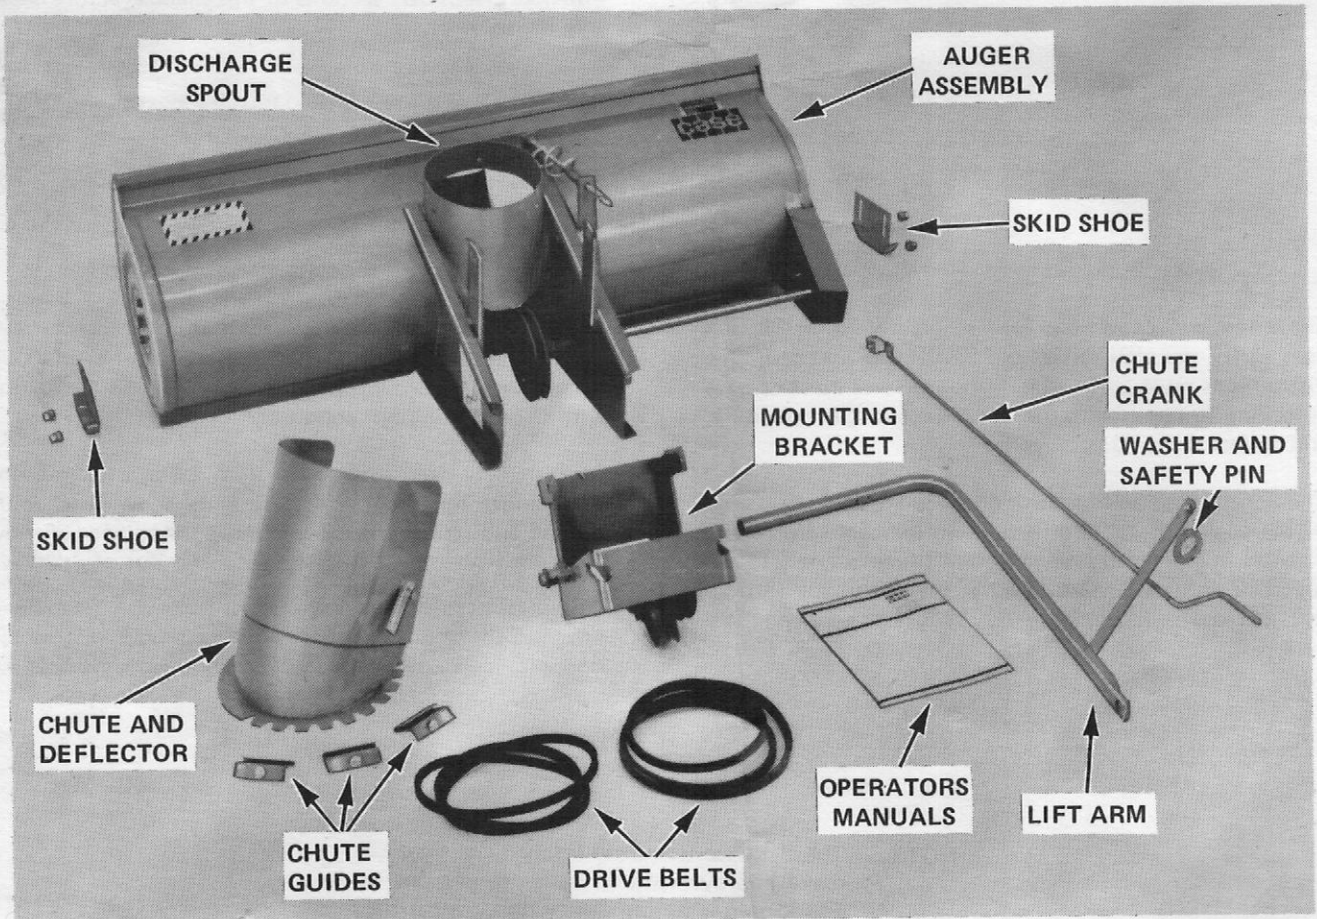

FIGURE 5
- B. Before attaching the snow caster, lay out the individual parts as illustrated in Figure 5.
8. Apply a coat of grease around the outside of the discharge spout as shown in Figure 5.